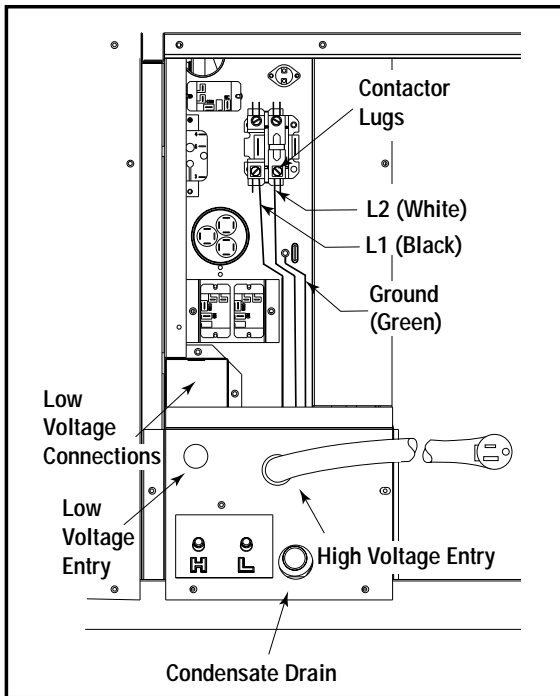

Figure 5. Power Entry and Hook Up
A 3/4" condensate drain connection is located on the side of the unit below the electrical compartment. (See Figure 5). A field supplied condensate drain should be installed. Route the condensate to a suitable drainage area. Any connecting tube or hose must have the outlet below the fitting on the unit for proper drainage.
- Extend the power cord leads up into the control panel and connect L1 (Black) and L2 (White) directly to the contactor lugs provided. (See Fig. 5)
- Ground the heat pump unit by attaching the power cord ground wire (Green-w/ eyelet) to the unit using the green grounding screw provided in the control panel. (See Fig. 5)
- Low voltage wiring from the indoor furnace and thermostat will be located under the home near the branch circuit receptacle and cover. Route the 24V control wires through the low voltage sealing grommet. (See Figure 5)
- Connect the low voltage control wires to the leads in the low voltage compartment as shown in Figure 5 and 6.